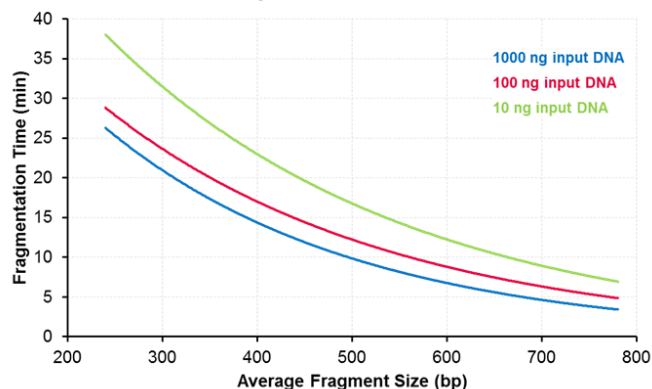

Figure 2: Fragmentation profile of different amount of input DNA in 1X TE
* **Note:** The reaction time should be optimized for different amount of input DNA. For input DNA >10 ng, we recommend **25 min as a starting point** as it produces fragmentation size centers around **300 to 500 bp**. For input DNA ≤10 ng, to produce fragment size centered around **300 bp**, we recommend **15 min**. Depending on the size requirement and type of input DNA, either increase or decrease reaction time by 3 min incrementally until expected size range is achieved. For more detailed guidance, please refer to Figure 2 below. For a direct comparison purpose, instead of 5 µl of Enhancer as suggested below, only 2.5 µl of Enhancer to the final reaction (50 µl) was used to generate the fragmentation profile of 10 ng input DNA in 1X TE.